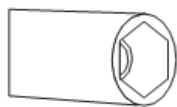

Figure 3
3. Please use driver with special head for removed and install nozzle as (figure 3).